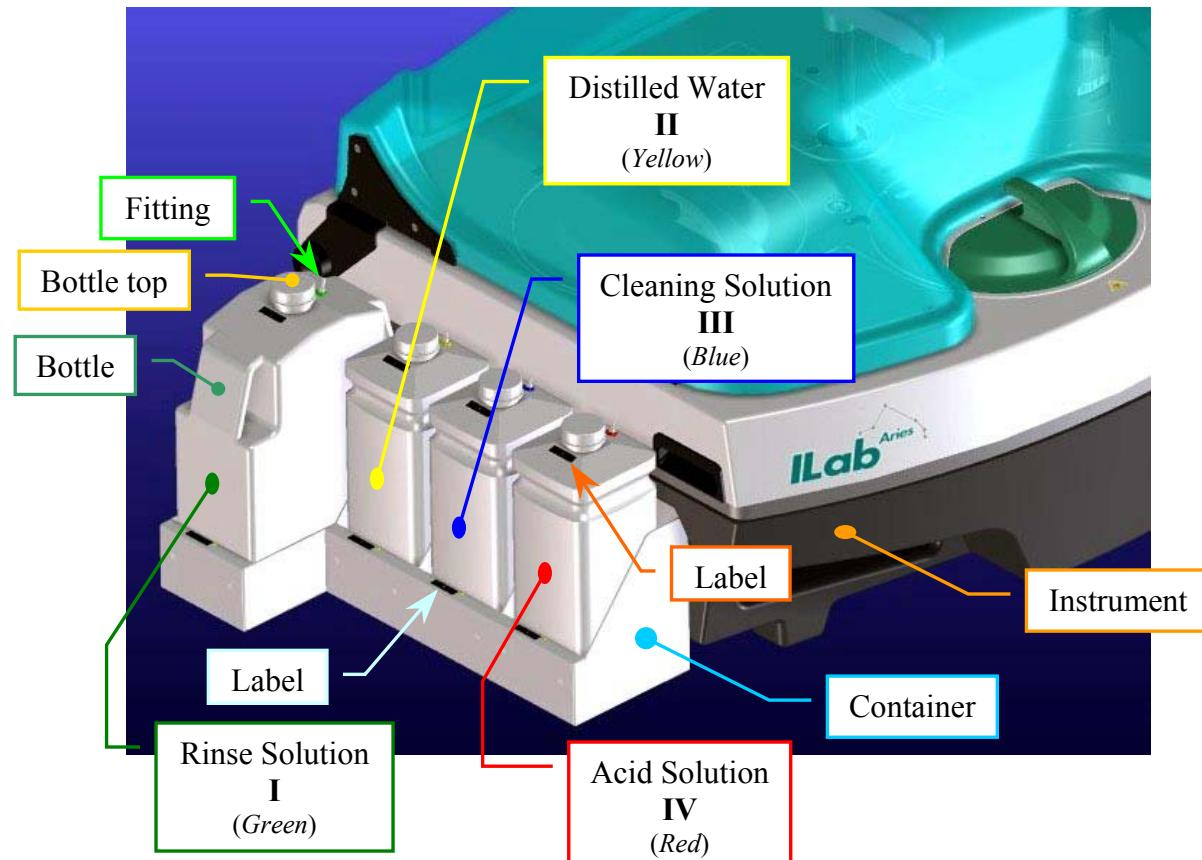

Fig. 5 – Four Liquid Reservoir Bottles
1. Position the four bottles on the container in the order indicated and illustrated here-below (**Fig.5**):
4. Insert the other extremities of the four loading tubes in the fittings of the bottles according to the indications dictated by **Figures 5** and **6**.